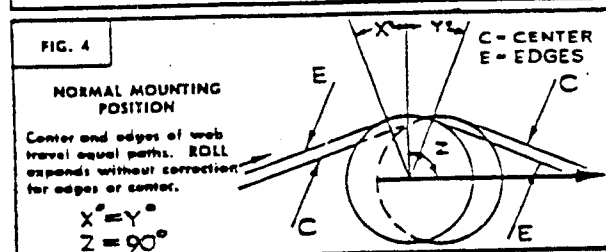

FIG. 4
- a. Set roll with apex of bow in same direction as that in which paper or other sheet is traveling. Web will meet roll on concave side and leave from convex side (Fig. 4).